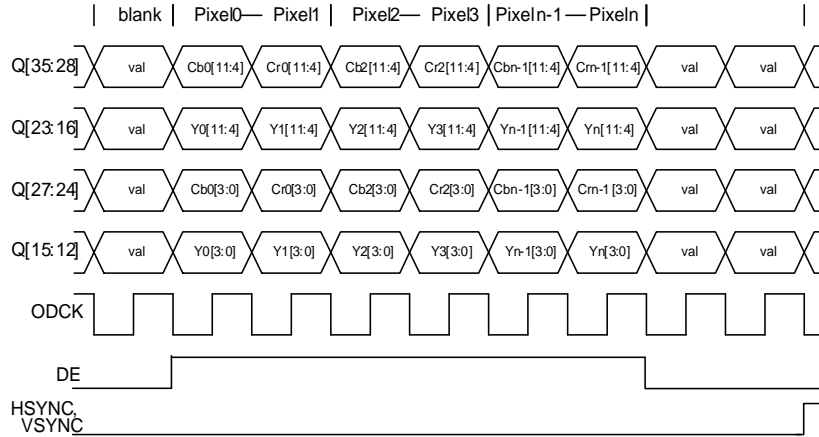

Figure 8.6. YC Timing Diagram
The YC 4:2:2 formats output one pixel for every pixel clock period. A luminance (Y) value is sent for every pixel, but the chrominance values (Cb and Cr) are sent over two pixels. Pixel data can be 24-bit, 20-bit or 16-bit. HSYNC and VSYNC are output separately on their own pins. The DE HIGH time must contain an even number of pixel clocks. Figure 8.6 on page 49 shows timings with OCLKDIV = 0 and OCKINV = 1.